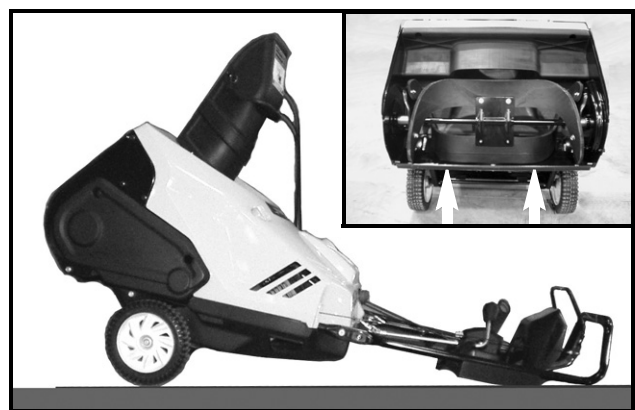

FIGURE 2
7. Tip the handlebar down until it is resting on the ground and the auger is in an upward position. Secure the unit in this position. See Figure 2.
NOTE: Support the snow thrower in the tipped position with jack stand(s) set under the shave plate. See Figure 2 inset.